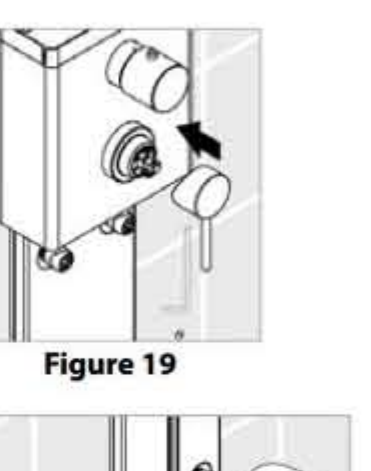

Figure 16
- Push the front cover into place. (See Figure 16.)